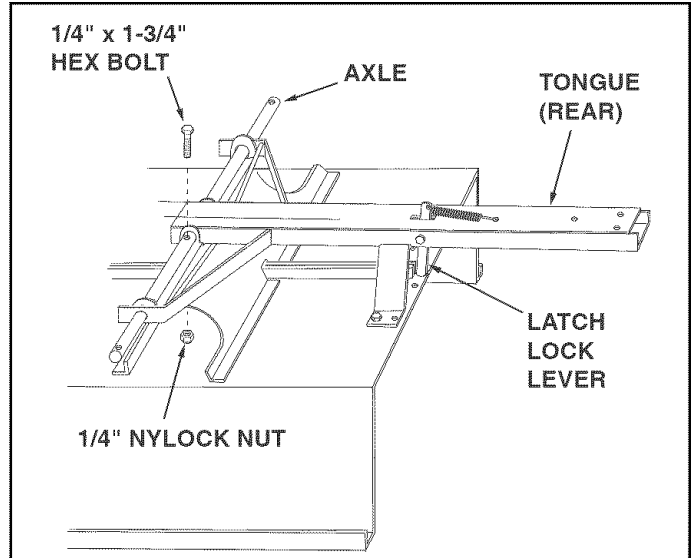

FIGURE 6
- Place the rear tongue onto the wheel support and the latch stand bracket. Assemble the axle through the wheel support and the tongue. Fasten the axle to the wheel support using two 1/4" x 1-3/4" hex bolts and 1/4" nylock nuts. See Figure 6.